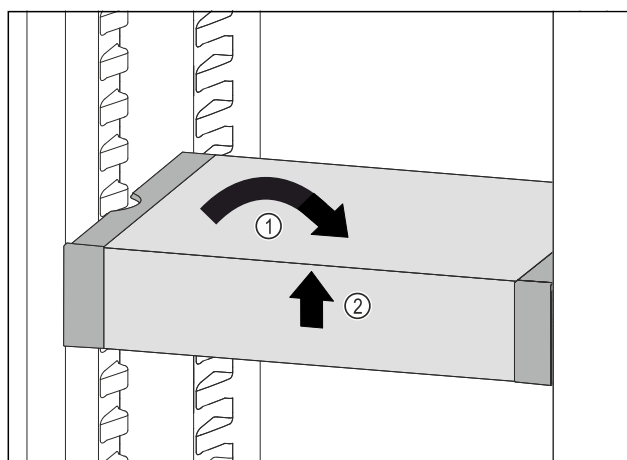

Fig. 89
- Set VarioSafe straight. Fig. 89 (1)
- Lift VarioSafe at the front. Fig. 89 (2)